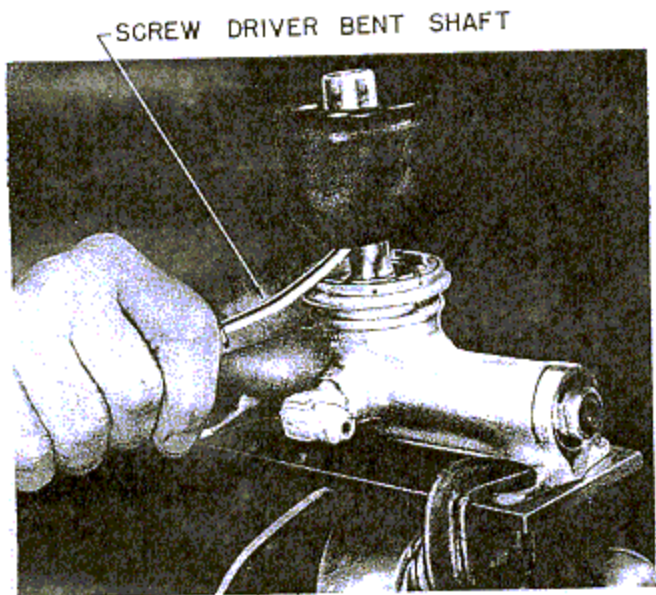

Figure 221—Removing Boot from Hand Pump
3. With the pump body mounted to a table in a vise, turn the boot inside out and pry off as shown in figure 221.